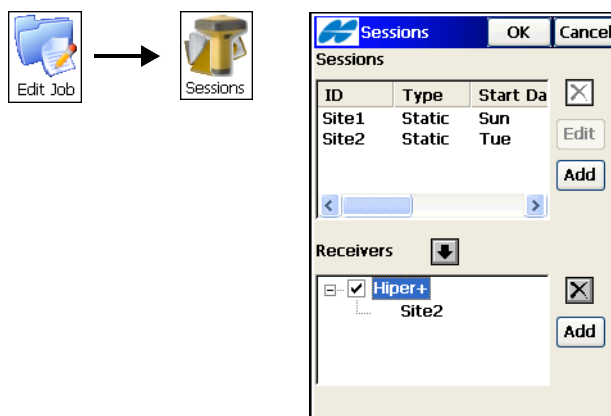

Figure 6-33. Session Edit
1. To create a new session, tap the **Add** button on the *Sessions* panel (Figure 6-33). The *Session Setup* screen displays.
Enter the site name, the type of the survey, the time (in local time) and date of the start and end of session, the interval between measurements, minimum number of satellites needed for the survey and the value and type of the antenna height. Then tap **OK** to return to the *Sessions* screen (Figure 6-33 on page 6-25).
5. To hide/display the session plans of the receiver, tap on the “-/ +” sign located near the receiver name to collapse/expand the tree node (Figure 6-33 on page 6-25).
6. To put a session to the session plan of the receiver, highlight the desired session in the left panel and check the necessary receiver on the right and tap the  button (Figure 6-33 on page 6-25).
7. To edit the session, select it in the left panel and tap the **Edit** button (Figure 6-33 on page 6-25).
8. To delete the session from the sessions list or the receiver, use the  button (Figure 6-33 on page 6-25).